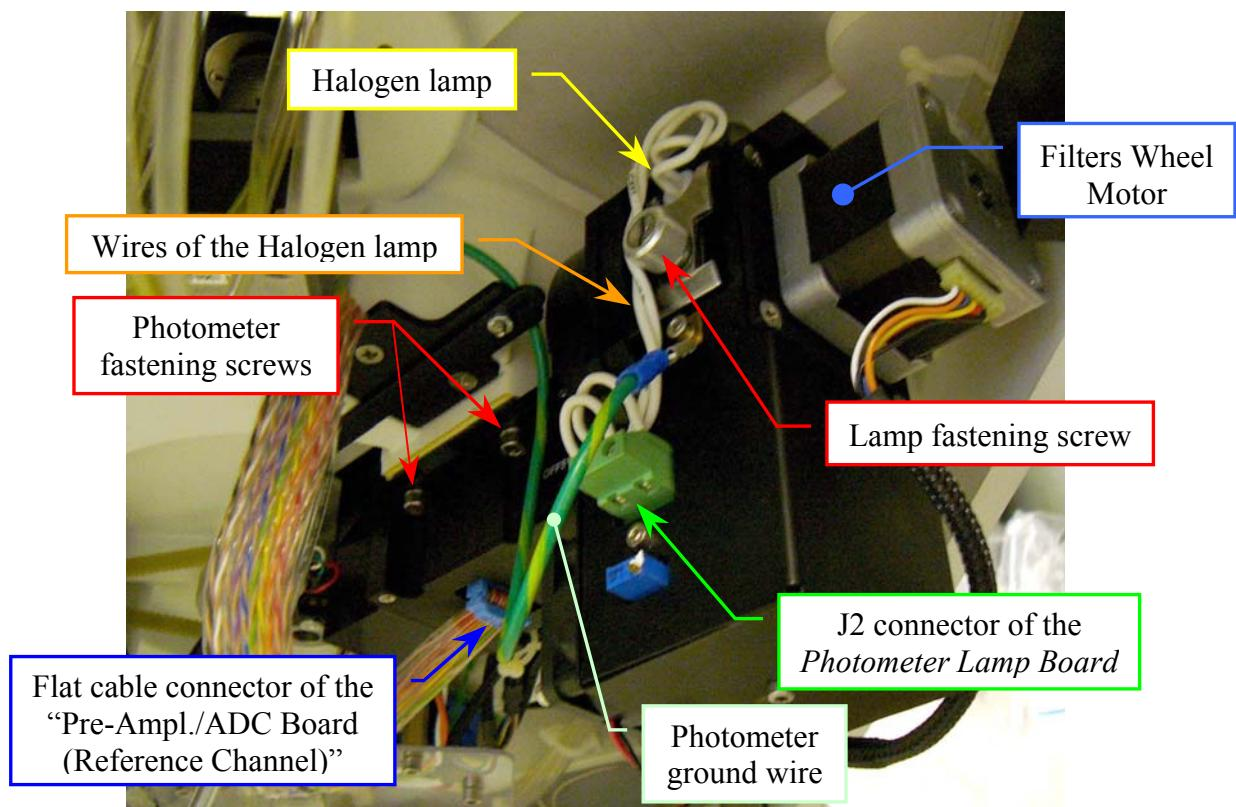

Fig. 54 – Photometer [P/N: 15-02448-00]
4. Unplug the flat cable connector from the “Pre-Ampl./ADC Board (Sample Channel)”, the flat cable connector from the “Pre-Ampl./ADC Board (Reference Channel)” and the ground wire from the Photometer (**Fig. 54**).
5. Unscrew the four Photometer fastening screws (**Fig. 54**), pull down – moving carefully – the Photometer from its housing and take out it from the instrument.
6. Unscrew the two screws of the J2 connector (**Fig. 54**) and take out the two halogen lamp wires from the connector.